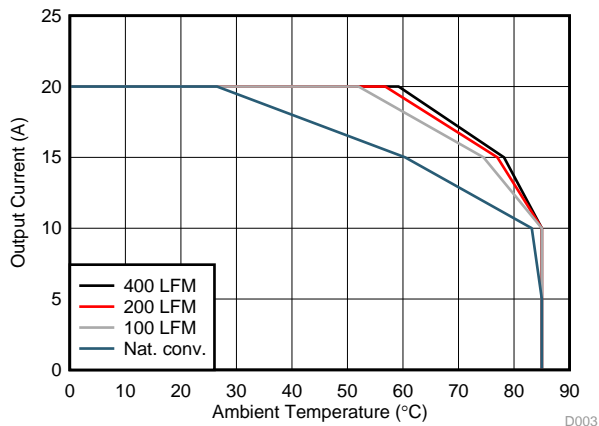

Figure 3. Safe Operating Area – PCB Horizontal Mount
The SOA curves in the CSD87334Q3D data sheet provides guidance on the temperature boundaries within an operating system by incorporating the thermal resistance and system power loss. Figure 3 to Figure 5 outline the temperature and airflow conditions required for a given load current. The area under the curve dictates the SOA. All the curves are based on measurements made on a PCB design with dimensions of 4 in (W) × 3.5 in (L) × 0.062 in (T) and 6 copper layers of 1-oz copper thickness.